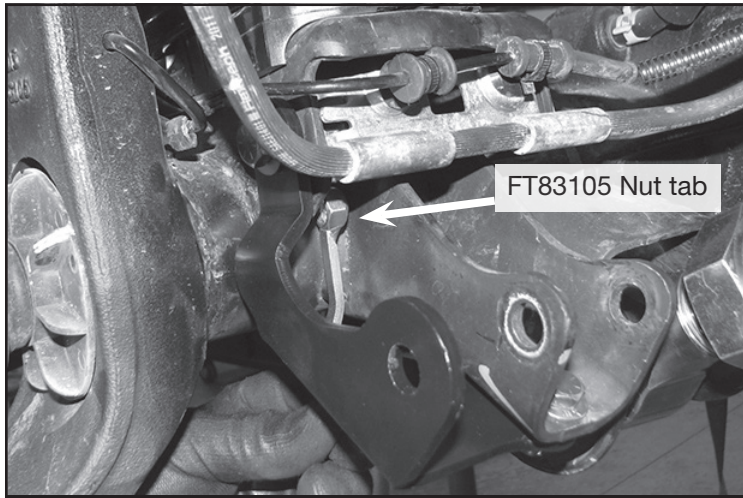

FIGURE 16 - STEP 16
16. Install the new bracket using the 3/8" hardware and FT83105 (Nut tab). Torque to 31 ft-lbs. **NOTE: Install the lower brake line bracket back into the factory location. The new 3/8" bolt and nut tab will secure it. SEE FIGURE 16**